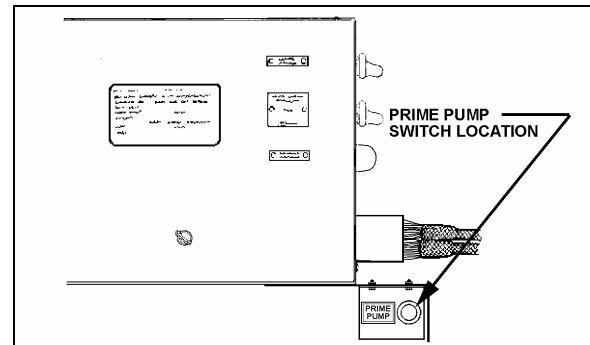

FIGURE 9: PRIME PUMP SWITCH LOCATION
- * If the vehicle is equipped with an optional priming pump (see Figure 9).